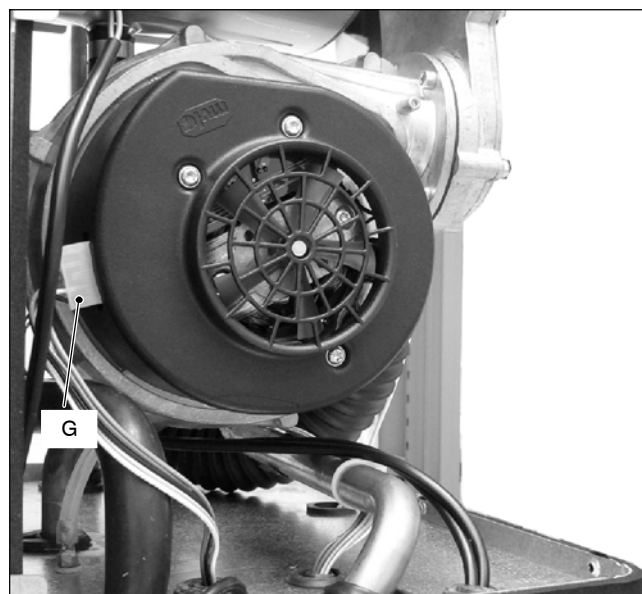

Fig. 5.3
- 4 Disconnect the fan connector *G* by pressing the plastic hook placed on the rear side of the connector (Fig. 5.3).